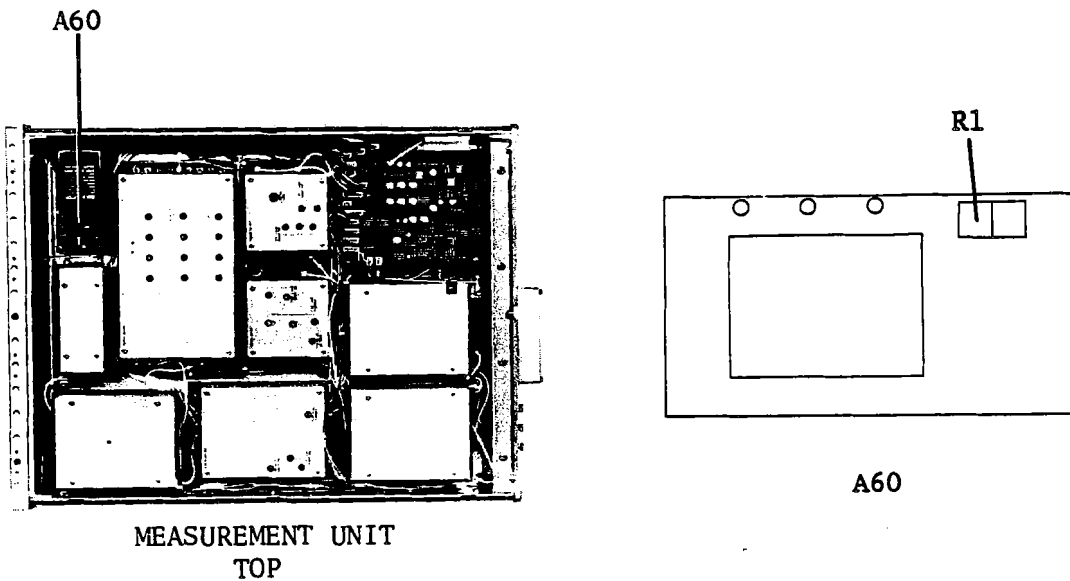

Figure 3-9. High Stability Oscillator Frequency Adjustment Location
3. Adjust A60R1 (F-ADJ) until the Frequency Counter reads $10 \text{ MHz} \pm 1 \text{ Hz}$. See Figure 3-9 for A60R1's location.